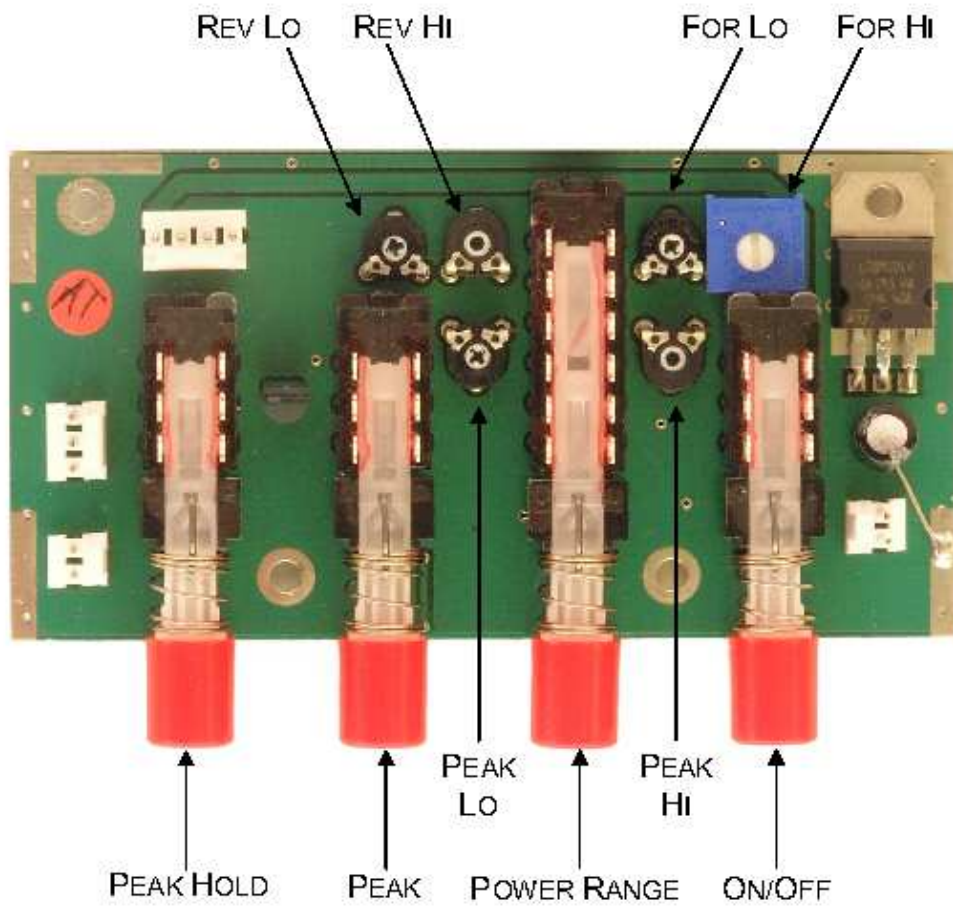

Figure 9.1: Meter Board Adjustment Locations
- (e) Adjust the **FOR LO** potentiometer (Figure 9.1) so that the AT-AUTO's forward power indication matches that shown on the calibrated Wattmeter.
- (c) Adjust the **PEAK LO** potentiometer (Figure 9.1) so that the AT-AUTO's forward power indication matches that shown on the calibrated Wattmeter.
- (c) Adjust the **PEAK HI** potentiometer (Figure 9.1) so that the AT-AUTO's forward power indication matches that shown on the calibrated Wattmeter.
- (c) Adjust the **FOR HI** potentiometer (Figure 9.1) so that the AT-AUTO's forward power indication matches that shown on the calibrated Wattmeter.
- (b) Adjust the **REV HI** potentiometer (Figure 9.1) so that the AT-AUTO's reflected power indication matches the forward power displayed on the calibrated Wattmeter.
- (c) Adjust the **REV LO** potentiometer (Figure 9.1) so that the AT-AUTO's reflected power indication matches the forward power displayed on the calibrated Wattmeter.